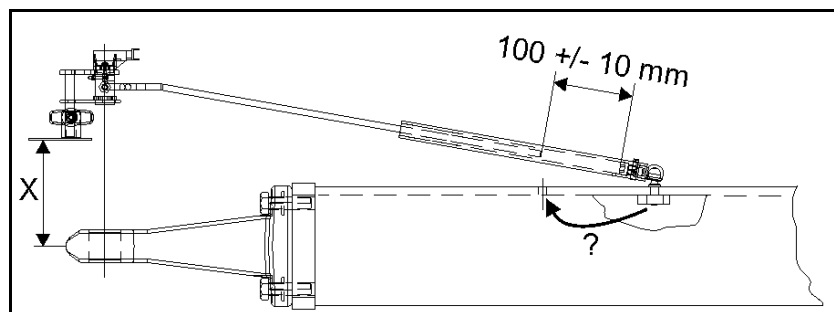

Fig. 119
5. Release the clamping screws (Fig. 119/1).